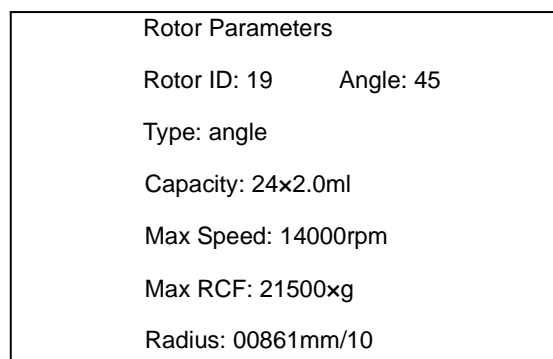

Figure 7-6 Browsing rotor parameters
1) In the preparation mode, press  button twice, the information of the current rotor will be displayed. See Figure 7-6, take rotor 19 for example.
■ Press  button twice, the rotor information is displayed, as shown in the Figure 7-6.